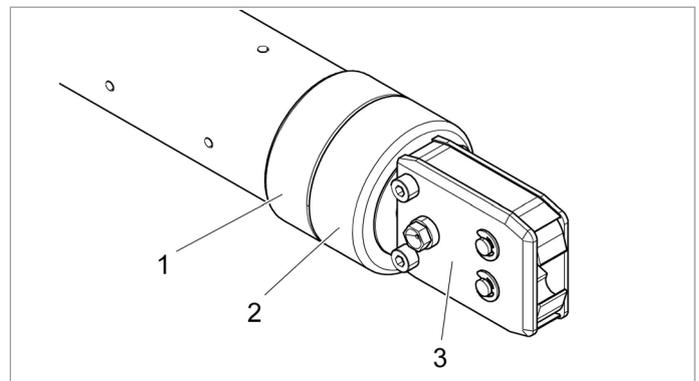

Fig. 11 *Aligning the pincer head*
The pincer head (Fig. 11/3) can be rotated into a convenient position for the user.
3. Loosen the lock nut (Fig. 11/1).
4. Loosen the union nut (Fig. 11/2) slightly.
5. Rotate the pincer head (Fig. 11/3) into the desired position.
6. Tighten the union nut (Fig. 11/2) and secure with the lock nut (Fig. 11/1).